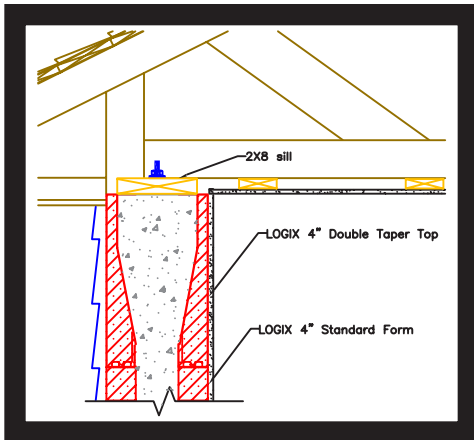

Figure 3: LOGIX 4" Double Taper Top supporting 2x8 sill plate.
1. A wider support for roof and flooring systems - can fully support sill plates upto 8" (203mm) wide (see **Figure 3**)